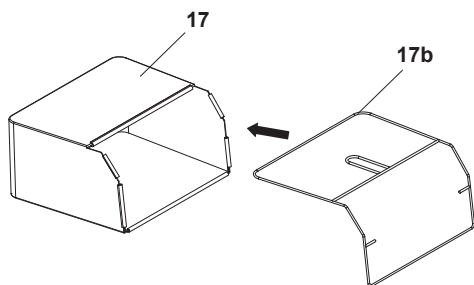

Fig. 4
1. Align and insert the steel frame (17b) into the Grass catcher (17) (Fig. 4).